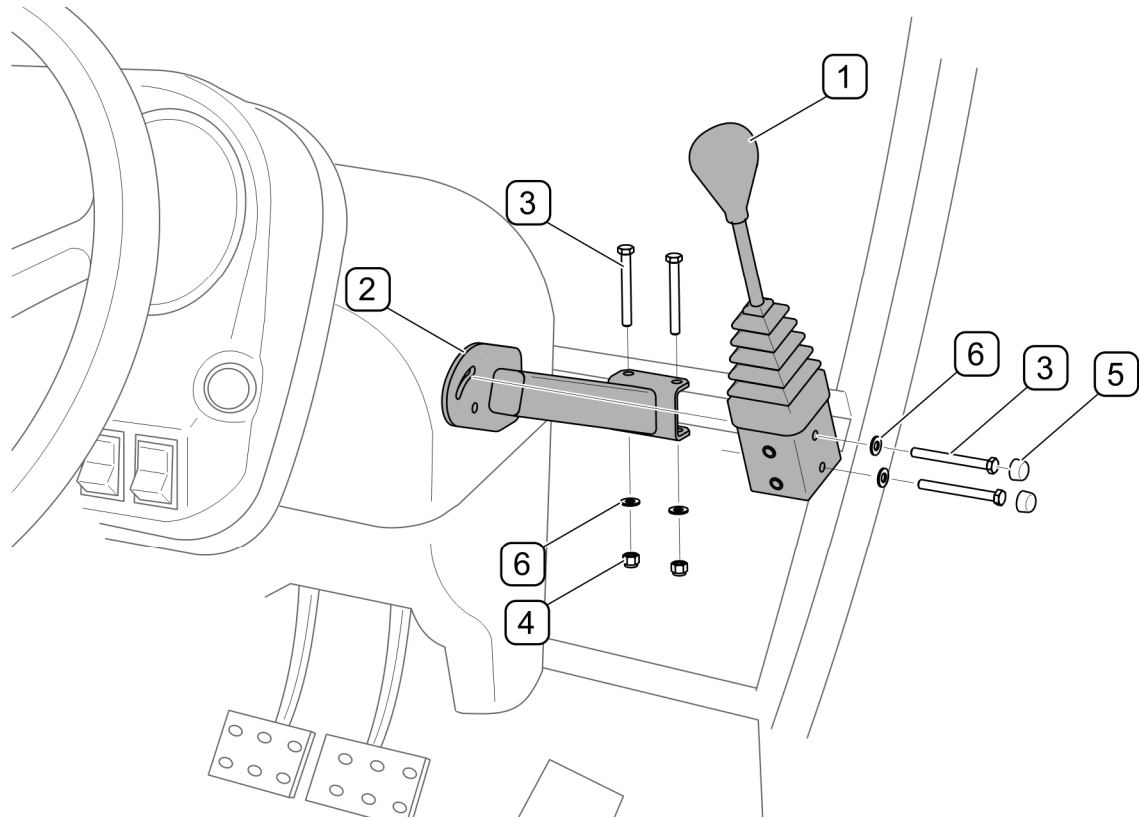

FIGURE 4.8 Installation of the control lever (BELARUS 1221.3 / 1523.3)
In Belarus 1221.3 / 1523.3 tractors, attach bracket (2) to the horizontal beam in the cab, on the right side of the console (FIGURE 4.8). Next, attach the loader control lever (1) to the bracket.